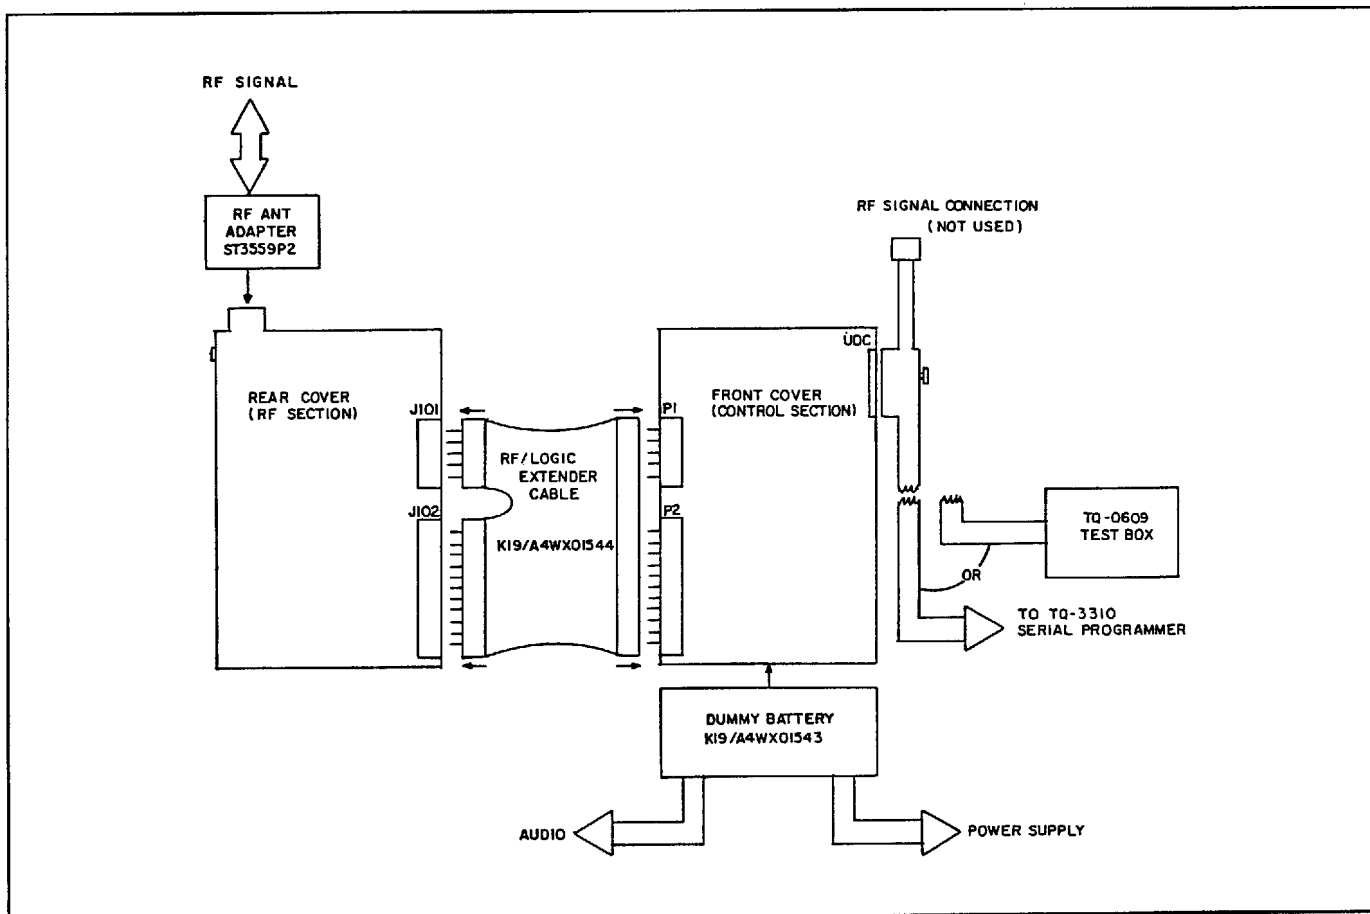

Figure 6 - Test Set-Up
1. Separate the Front and Rear Cover Assemblies and connect the RF/Logic Extender cable between the RF Board and the Control Board. See Figure 6.